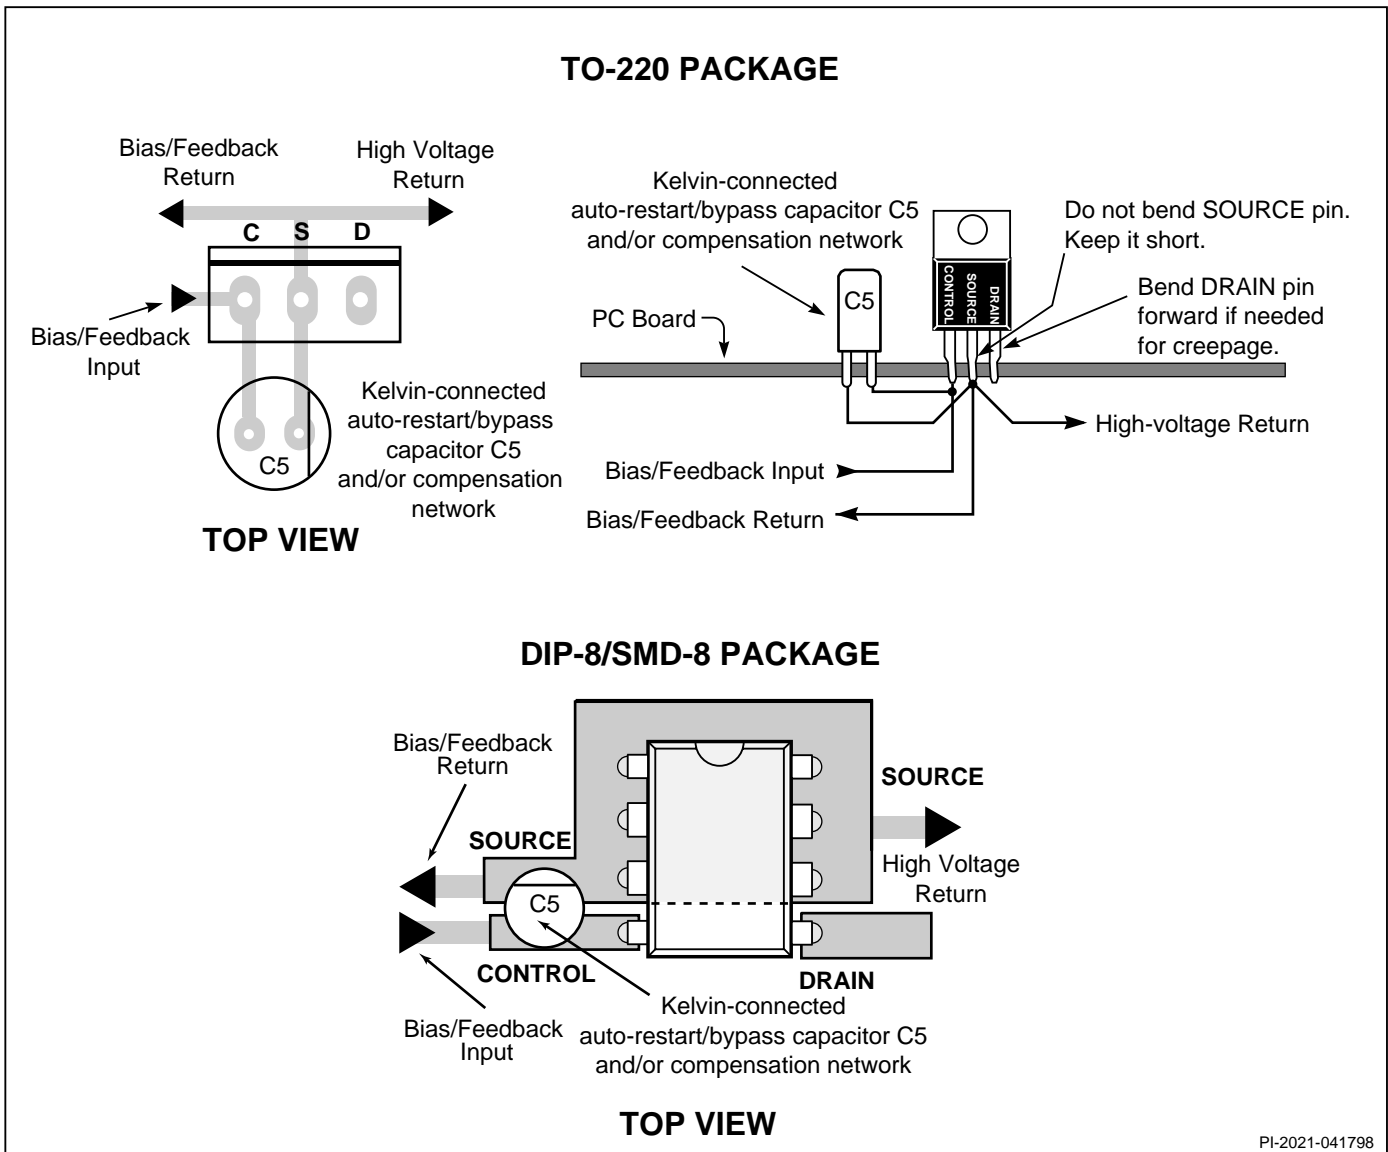

Figure 9. Recommended TOPSwitch Layout.
- Keep the SOURCE pin length very short. Use a Kelvin connection to the SOURCE pin for the CONTROL pin bypass capacitor. Use single point grounding techniques at the SOURCE pin as shown in Figure 9.